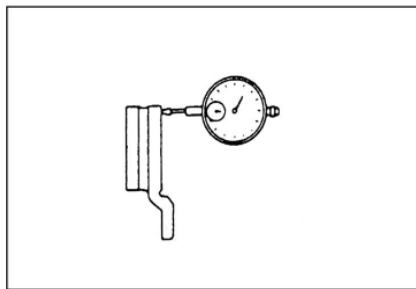

Fig. 16-21
- (1) Remove the caliper assembly, and fixed by wire.
- (2) Put a dial gauge at place which approximately 5mm around brake disc ,and measure the run-out of the disc (see Fig. 16-21)